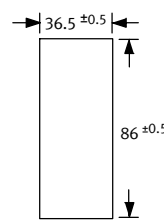

Fig. 11
- Size of the front panel cut-out in mm → Fig. 11